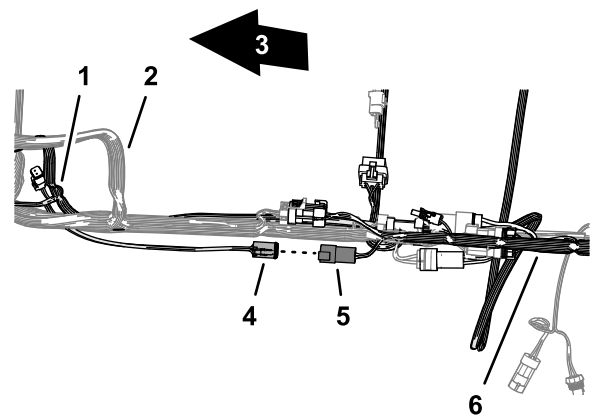

Figure 143
- Connect the 4-pin connector of the data-harness branch labeled CAN 2 ASC 10 BUS into the 4-socket connector of the rear GeoLink harness for the CAN 2 / sprayer-controller circuit (Figure 143).